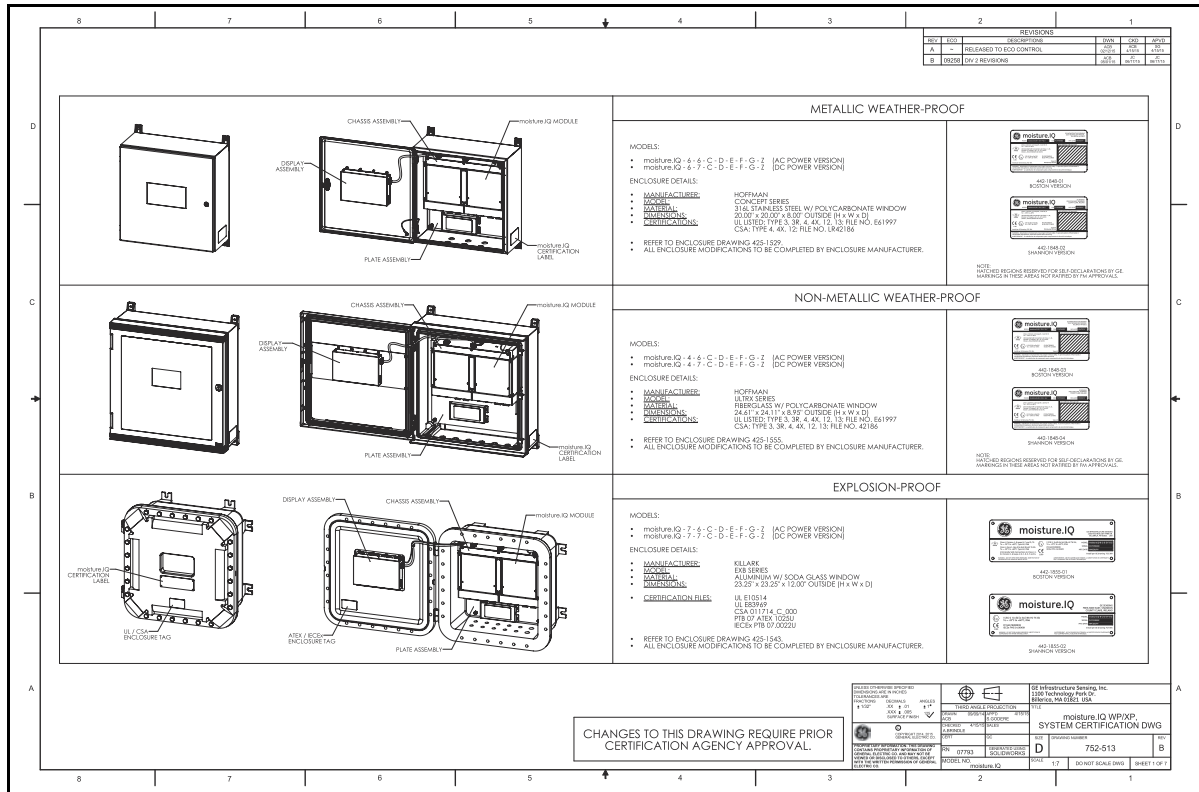

Figure 2: WP/XP System Certification Drawing (Dwg. 752-513_revB, SH 1 of 5)
- The installation should comply with **controlled drawing** 752-364 rack/bench/panel version (see *Figure 1* below) and **drawing** 752-513 stainless steel weather-proof, fiberglass weather-proof and explosion-proof version (see *Figure 2* on page 2 through *Figure 6* on page 4).